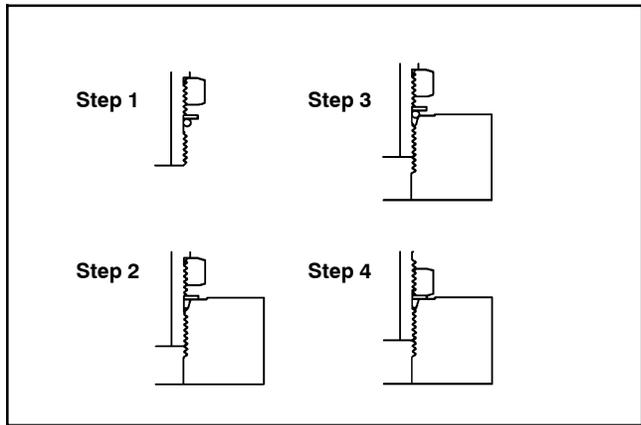

Figure 16
4. Turn back the lock nut as far as possible. Make sure the back up washer is not loose and is pushed up as far as possible (Step 1 in Figure 16).
5. Install the fitting into the port and tighten finger tight until the washer contacts the face of the port (Step 2 in Figure 16).
6. To put the fitting in the desired position, unscrew it by the required amount, but no more than one full turn (Step 3 in Figure 16).
8. If a torque wrench is not available, or if space at the port prevents use of a torque wrench, an alternate method of assembly is the Flats From Finger Tight (F.F.F.T.) method. Hold the fitting in the desired position with a wrench and, if port material is steel, tighten the lock nut with a second wrench to the listed F.F.F.T (Step 4 in Figure 16). If port material is aluminum, tighten fitting to 60% of listed F.F.F.T.